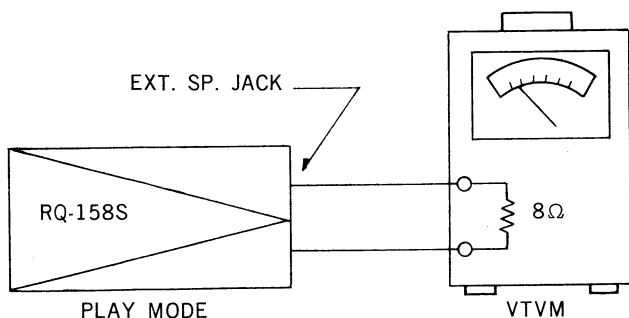

Fig. 1
Measuring Circuit: Refer to Fig. 1.
1. As shown in Fig. 1, connect V.T.V.M. to Extension Speaker Jack of model RQ-158S and terminate with 8 Ω resistor.